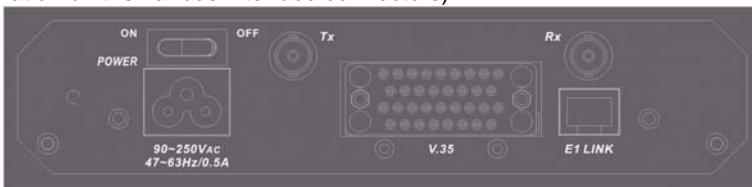
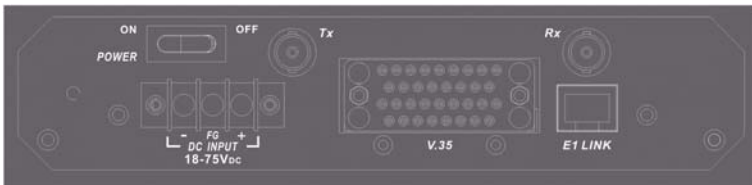

Figure 2.1 ETU01-Plus rear panel AC
Figure 2.2 ETU01-Plus rear panel DC
AC power is supplied to the ETU01-Plus through a standard 3-prong IEC C6 receptacle (Refer to Figure 2.1) while the DC model utilizes a three pin terminal block (Refer to Figure 2.2). The ETU01-Plus should always be grounded through the protective earth lead of the AC power cable or via Frame Ground (FG) terminal connection.